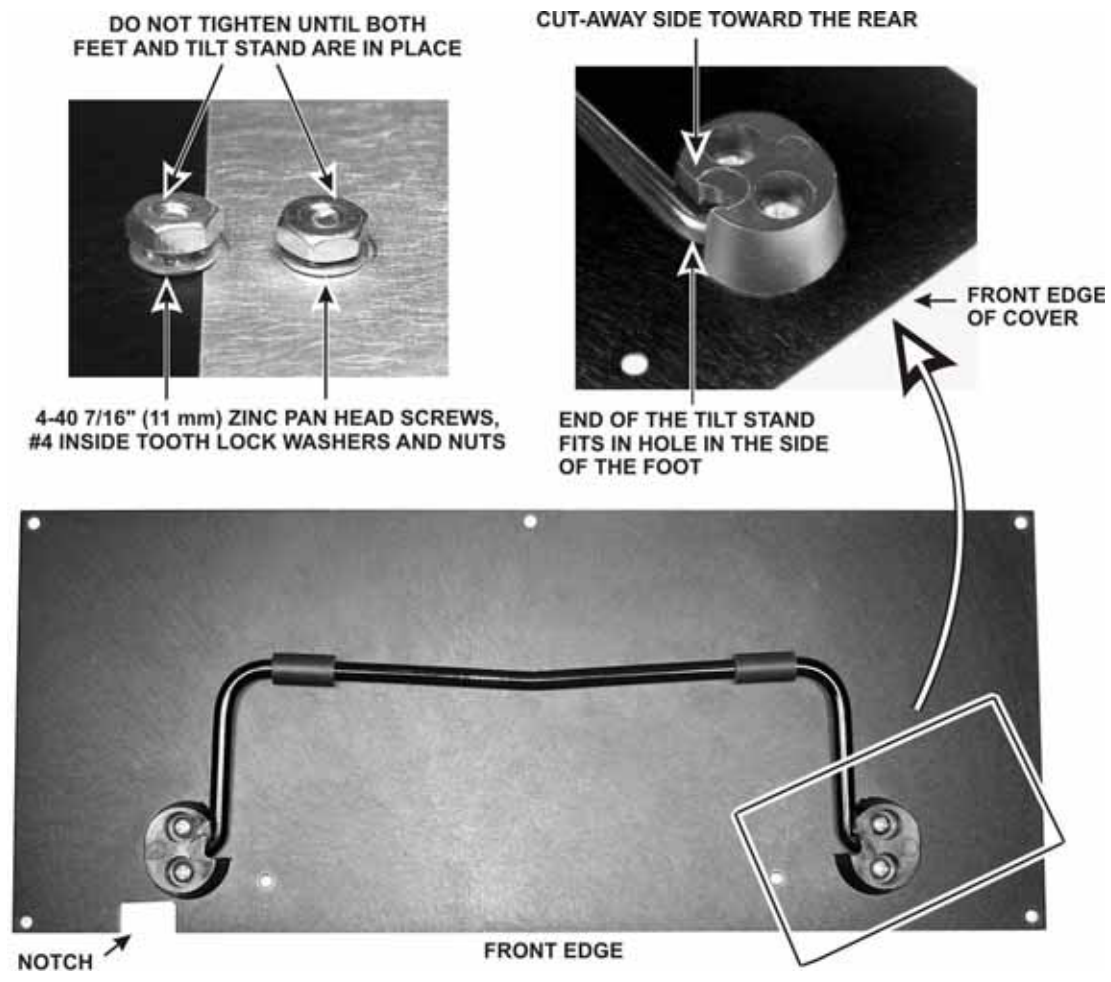

Figure 82. Installing Tilt Stand.
- Identify the bottom cover forward section by test fitting it on the bottom of the K3. The forward section is the thinner panel with a notch along one edge (see Figure 82).
- Attach one tilt stand foot to bottom cover section A as shown in Figure 82 using a 4-40 7/16" (11 mm) zinc pan head screw. The foot goes on the fully-painted side of the cover, oriented as shown. Be sure the cut-away side of the foot is farthest from the edge of the panel and the hole for the tilt stand faces the holes for the other foot. Use a #4 inside tooth lock washer and #4 nut to secure each screw. Do not tighten the hardware. Start the nuts onto the screws only a few turns so the foot is free to move about.